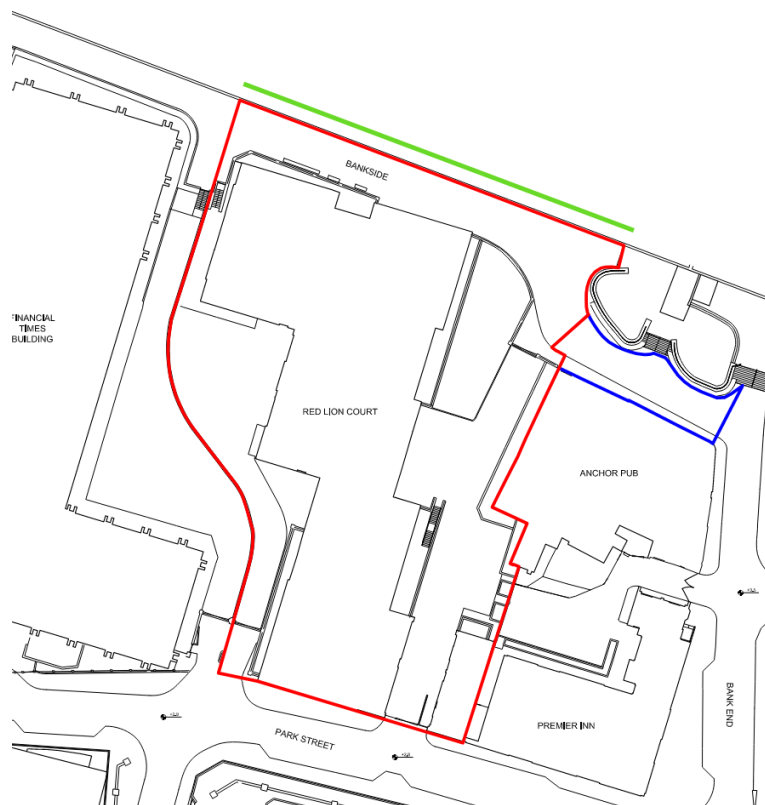

FIGURE 3 LENGTH OF SHEET PILE WALL REQUIRING INVESTIGATIONS (SHOWN WITH GREEN)
- All investigation works should extend a minimum of 2.5m beyond the assumed site boundary line based on Figure 3 above.